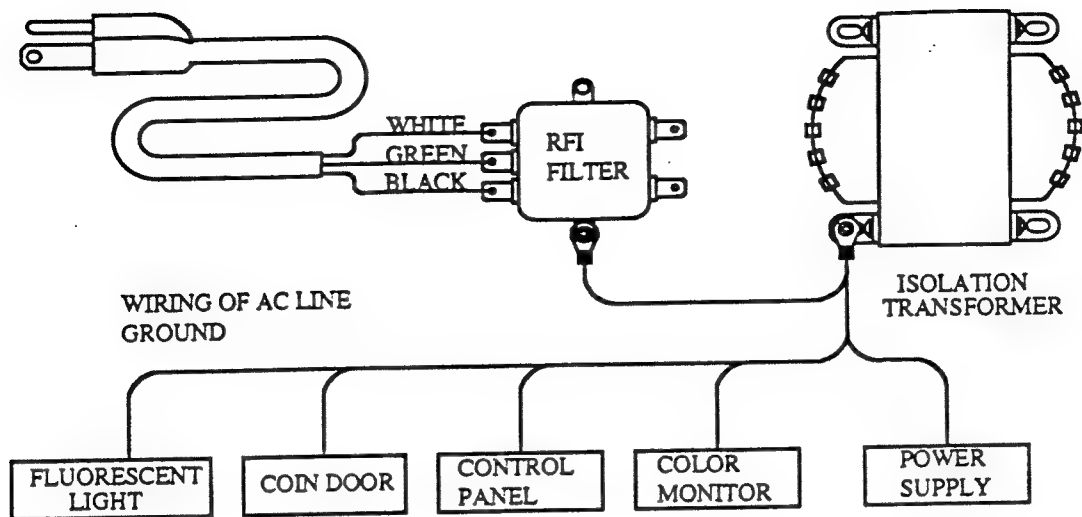

Figure 7
24. Locate the GROUND lead (green) of the 115 volt input power Line (see figure 7). This must be connected to all components of the game system. This is a safety requirement for the players protection. This AC GROUND must be of # 18 AWG wire or larger. (see figure 7 for the proper routing of the wire)